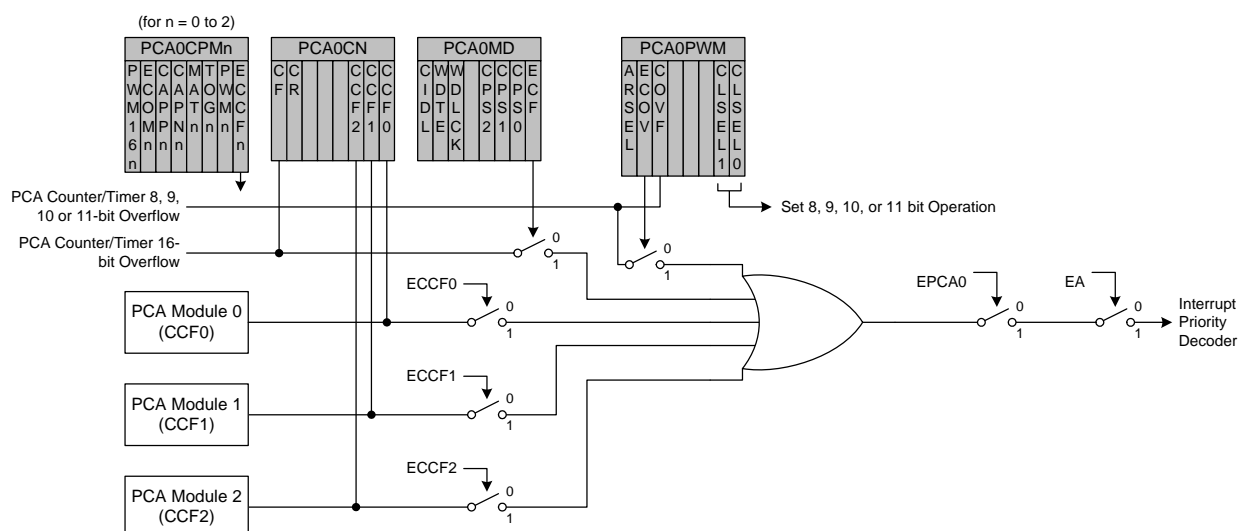

Figure 25.3. PCA Interrupt Block Diagram
Figure 25.3 shows a diagram of the PCA interrupt tree. There are five independent event flags that can be used to generate a PCA0 interrupt. They are: the main PCA counter overflow flag (CF), which is set upon a 16-bit overflow of the PCA0 counter, an intermediate overflow flag (COVF), which can be set on an overflow from the 8th, 9th, 10th, or 11th bit of the PCA0 counter, and the individual flags for each PCA channel (CCF0, CCF1, and CCF2), which are set according to the operation mode of that module. These event flags are always set when the trigger condition occurs. Each of these flags can be individually selected to generate a PCA0 interrupt, using the corresponding interrupt enable flag (ECF for CF, ECOV for COVF, and ECCFn for each CCFn). PCA0 interrupts must be globally enabled before any individual interrupt sources are recognized by the processor. PCA0 interrupts are globally enabled by setting the EA bit and the EPCA0 bit to logic 1.